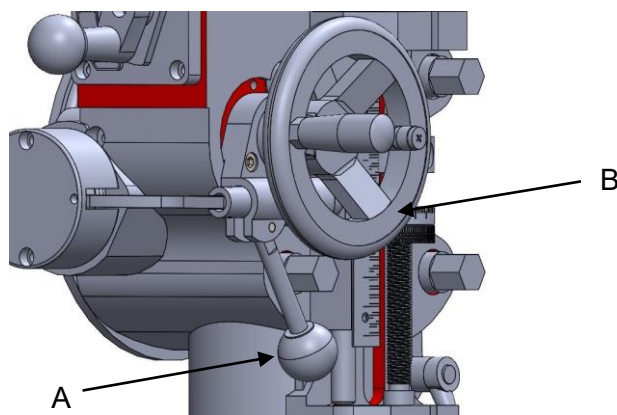
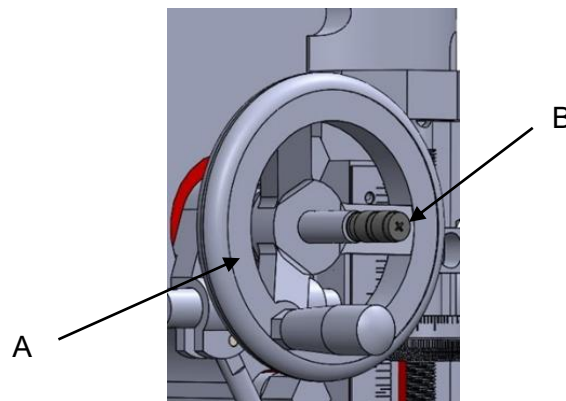

Figure 5
Figure 6
- **Location** – The Feed Trip Cam Lever (A, Figure 5) is positioned on the left side of the head, behind the Manual Fine Feed Handwheel (B, Figure 5).
- **Location & Function** – The Feed Direction Control (B, Figure 6) determines the movement direction of the power feed: up, down, or neutral.
- **Engagement Tips** – The position of the control may be changed while the system is stopped or running. If engagement is difficult, move the fine feed handwheel (A, Figure 6) back and forth to assist in proper alignment.
- **Function & Use** – When the controls are set for the Fine Feed using Handwheel position (see Figure 5), the Fine Feed Handwheel (A, Figure 6) allows manual fine feed control.